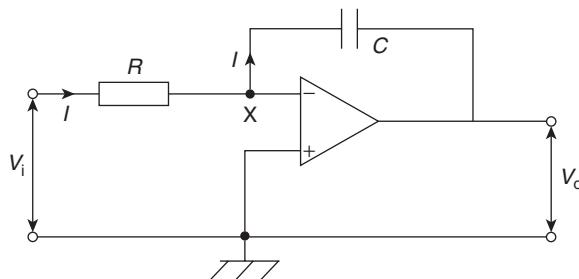

Figure 19.15
The circuit for the op amp integrator shown in Fig. 19.15 is the same as for the op amp inverting amplifier shown in Fig. 19.5, but feedback occurs via a capacitor  $C$ , rather than via a resistor.
Since the inverting (−) input is used in Fig. 19.15,  $V_o$  is negative if  $V_i$  is positive, and vice versa, hence the negative sign in equation (9).
Since  $X$  is a virtual earth in Fig. 19.15, i.e. at 0 V, the voltage across  $R$  is  $V_i$  and that across  $C$  is  $V_o$ . Assuming again that none of the input current  $I$  enters the op amp inverting (−) input, then all of current  $I$  flows through  $C$  and charges it up. If  $V_i$  is constant,  $I$  will be a constant value given by  $I = V_i/R$ . Capacitor  $C$  therefore charges at a constant rate and the potential of the output side of  $C$  ( $= V_o$ , since its input side is zero) charges so that the feedback path absorbs  $I$ . If  $Q$  is the charge on  $C$  at time  $t$  and the p.d. across it (i.e. the output voltage) changes from 0 to  $V_o$  in that time then: